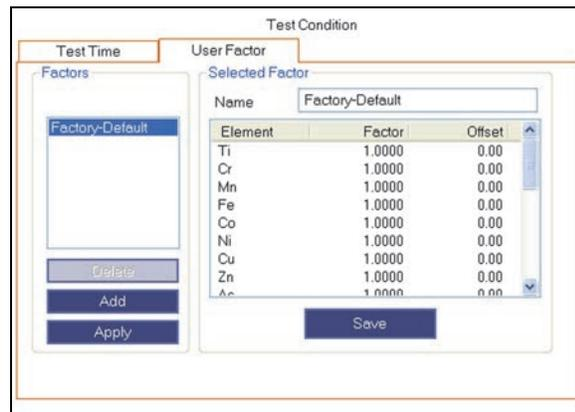

Figure 5-3 The User Factor tab – Dust Wipe
3. On the **Test Conditions** pane, click the **User Factor** tab (see Figure 5-3 on page 81).
7. Enter **Factor** and **Offset** values for the selected element (see Figure 5-3 on page 81).